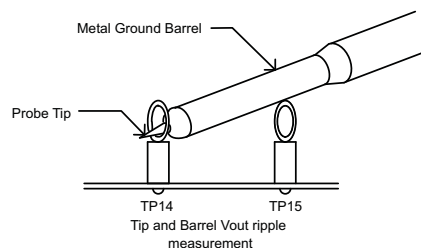

Figure 3. Output Ripple Measurement - Tip and Barrel Using TP14 and TP15
TPS40210EVM provides two test points for measuring the voltage generated by the module. This allows the user to measure the actual module output voltage without losses from output cables and connectors. All output voltage measurements should be made between TP14 and TP15. To use TP14 and TP15, connect a voltmeter positive terminal to TP14 and negative terminal to TP15. For output ripple measurements, TP14 and TP15 allow a user to limit the ground loop area by using the tip and barrel measurement technique shown in Figure 3. All output ripple measurements should be made using the tip and barrel measurement.
V_{IN}: The input voltage source (VIN) should be a 0-V to 15-V variable dc source capable of 8 A_{DC}. Connect VIN to J1 as shown in Figure 3.
Oscilloscope: A digital or analog oscilloscope can be used to measure the ripple voltage on V_{OUT}. The oscilloscope should be set for 1-MΩ impedance, 20-MHz bandwidth, ac coupling, 1-μs/division horizontal resolution, 10-mV/division vertical resolution for taking output ripple measurements. TP14 and TP15 can be used to measure the output ripple voltages by placing the oscilloscope probe tip through TP14 and holding the ground barrel to TP15 as shown in Figure 3. For a hands free approach, the loop in TP15 can be cut and opened to cradle the probe barrel. Using a leaded ground connection may induce additional noise due to the large ground loop area.
7. Place fan as shown in Figure 3 and turn on, making sure air is flowing across the EVM.
4. Connect oscilloscope probe to TP14 and TP15 as shown in Figure 3.